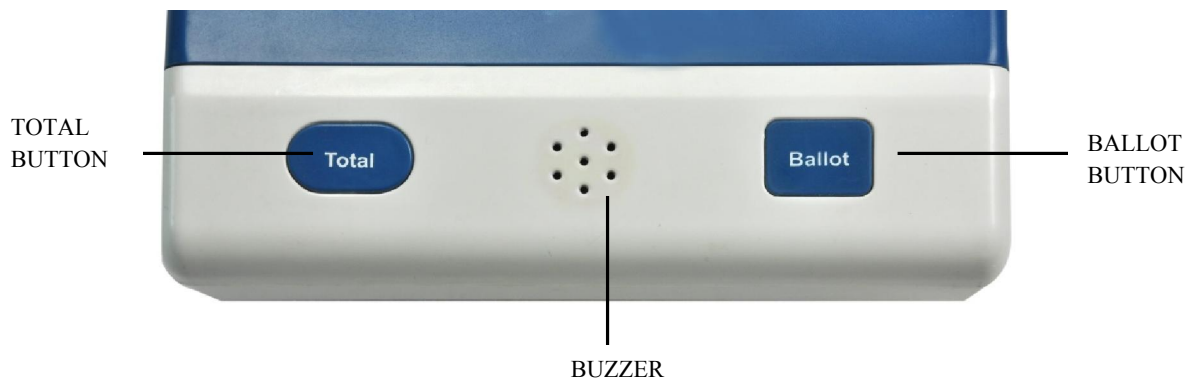

Fig.12 View of Ballot Section
24. In the ballot section there are two buttons - an elliptical blue 'Total' button and a rectangular blue 'Ballot' button. A buzzer as indicating in Fig. 12.
### **Ballot Button (Fig. 12)**
### **Total Button (Fig. 12)**